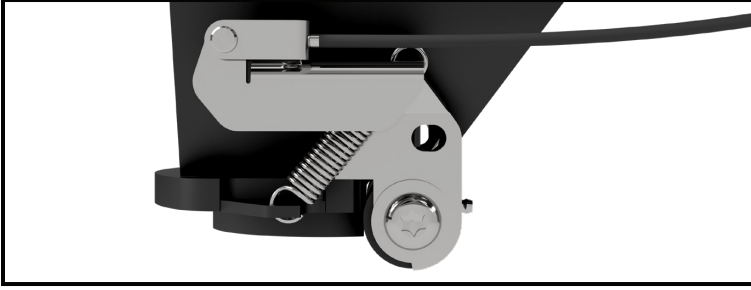

FIGURE C1: Coupler in "Couple/Tow" position
1. **Check latch.** Ensure the latch is in the "Couple/Tow" position before coupling, see **Figure C1**.